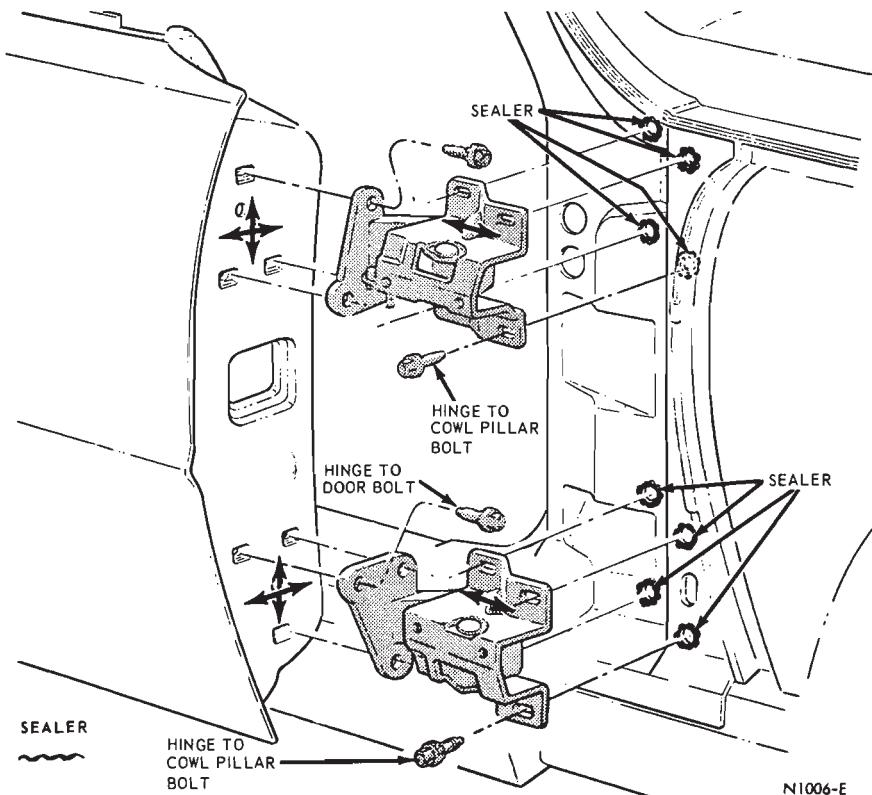

FIG. 1—Front Door Hinge Installation—Thunderbird and Continental Mark III
The door hinges provide sufficient adjustment latitude to correct most door misalignment conditions. The holes of the hinge and/or the hinge attaching points are enlarged or elongated to provide for hinge and door alignment (Figs. 1 through 3). Do not cover up a poor door alignment with a latch striker adjustment.
1. See Figs. 1 through 3 to determine which hinge bolts must be loosened to move the door in the desired direction.
2. Remove the side cowl trim panel and/or door trim panel and hinge access covers (Figs. 1 through 3). Loosen the hinge bolts just enough to permit movement of the door with a padded pry bar.